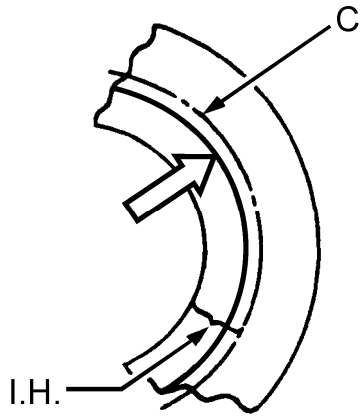

Fig. 14.60. Metal Ring Acceptable for Rebuild
- 1B. The narrow, highly polished sealing band must be within outer half of the sealing face (see Figs. 14.60 and 14.61).